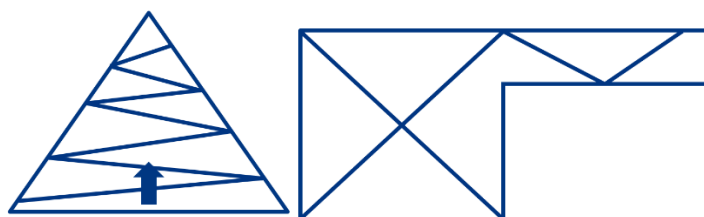

Figure 4b: combination of W, zigzag and cross pattern for collecting soil samples in oddly shaped areas
- For irregularly shaped fields or areas, a combination of zigzag and cross patterns (Figure 4b) can be used, ensuring sub-samples are evenly distributed. Divide the 40 sub-samples accordingly across the different legs.